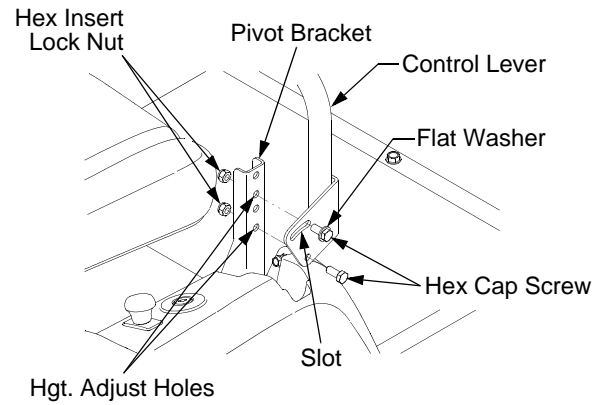

Figure 19
- Remove the two hex insert lock nuts securing the hex cap screws fastening the control lever to the control pivot bracket. Refer to Figure 19.
- Loosen the two hex insert lock nuts and hex cap screws securing the control lever to the control pivot bracket. Refer to Figure 19.